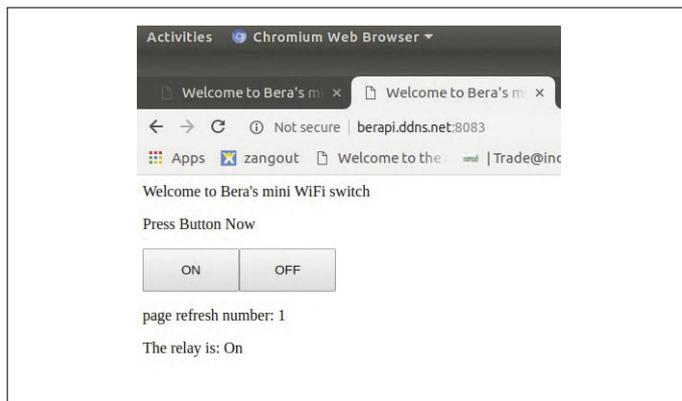

Figure 6. The author's mini relay switcher in action on a homespun web server.
**Figure 6** shows the output of this little wonder, when the sketch got uploaded and the DDNS & port forwarding was done properly. By calling this url in any browser window be it on an Android or Apple phone, anywhere of the world, the relay will behave as per the button press.